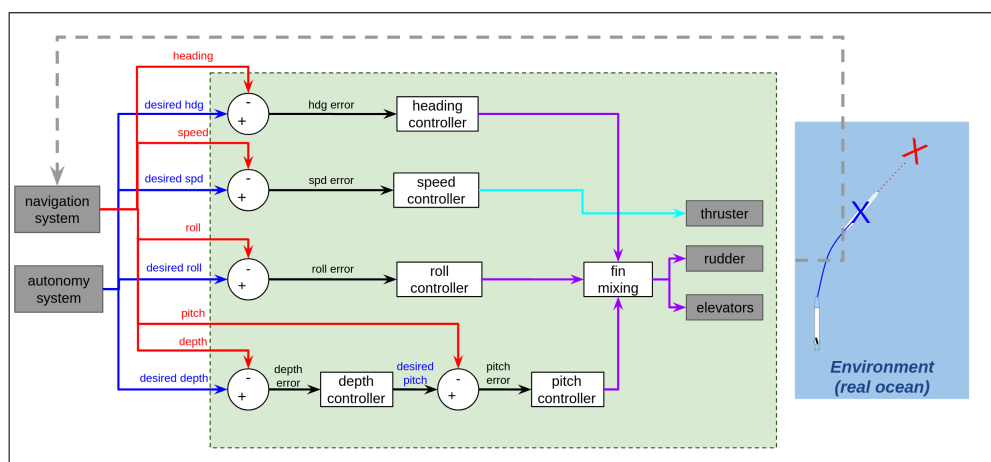

Figure 3: Low-level control sub-systems of SeaBeaver II AUVs
As we discussed during the “*Low-level Control Systems of AUVs*” lecture, depth control for under-actuated AUVs is achieved in two steps. As shown in Figure 3, (1) the depth control sub-system computes the desired pitch angle of the AUV to minimize the depth error, and (2) the pitch control sub-system computes the elevator angle to minimize the pitch error.